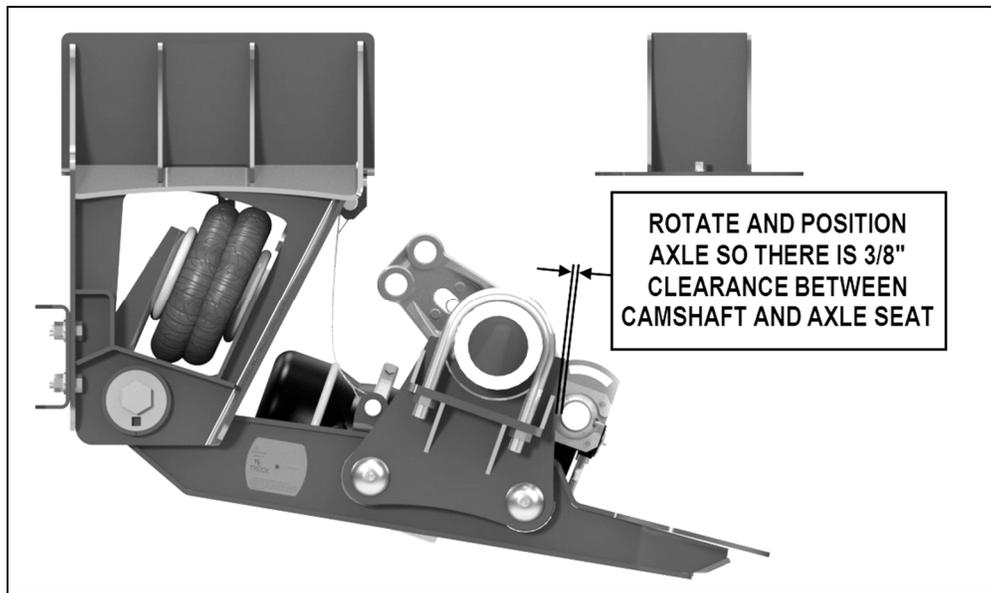

Figure 11
4.5. Verify there is 1.0" clearance between the S-cam and the top of the arm and 0.375" (3/8") between the S-Cam and axle seat (See **Figure 11**).